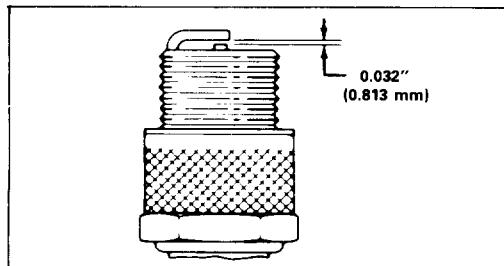

Figure 14
3. Set air gap at 0.032" (0.81mm) (Fig. 14). Install correctly gapped spark plug and gasket seal. Tighten plug firmly to 10 ft-lb (13.6 N-m).